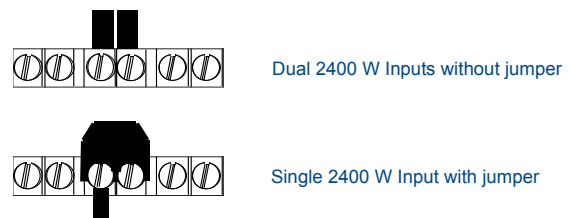

FIG. 3 Line-in Connections
- With a jumper, Line 1 and Line 2 provides a single 2400 W input (FIG. 3).